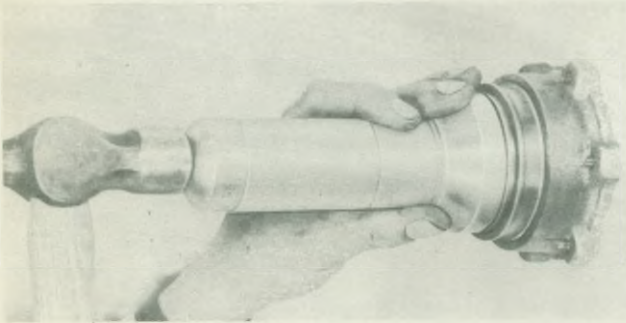

Fig. 8. Fitting oil seal into bearing housing—Tool No. 20S-92
3. Install oil seal utilizing fitting sleeve as shown in Fig. 8.